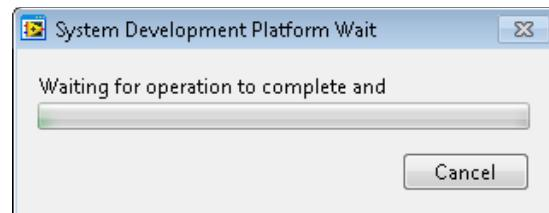

Figure 18. Software Connects to **SDP-H1** Board
- The software then connects to the board and displays the message shown in Figure 18.